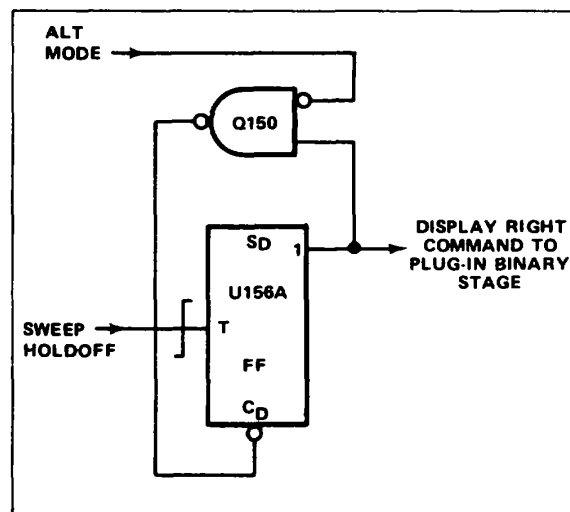

Figure 3-10. Logic diagram of Vertical Binary stage.
The Vertical Binary stage consists of integrated circuit U156A and transistor Q150. U156A is a D-type flip-flop with direct-set and direct-clear inputs (see Table 3-1 for operating details). The connection between the "O" output and the data (D) input enables this flip-flop to operate in the triggered mode. A logic diagram of the Vertical Binary stage is shown in Fig 3-10.